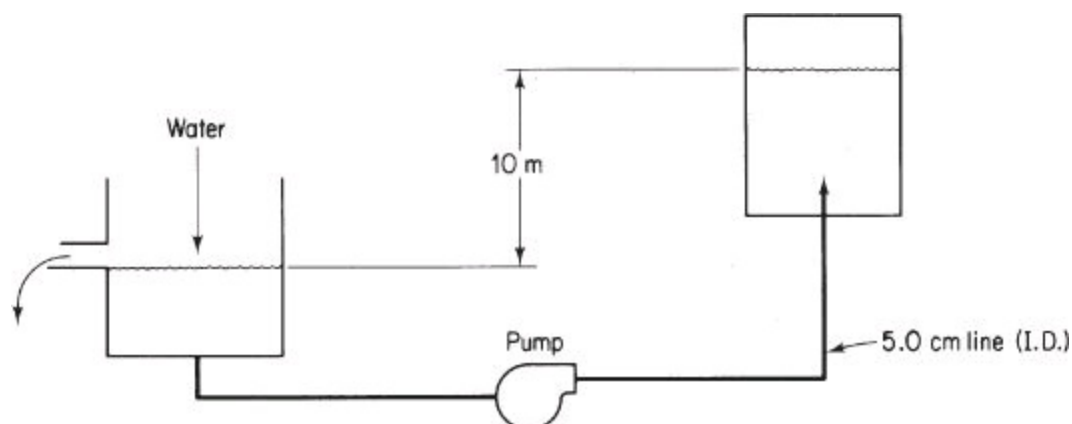

Figure P14.15
- *14.15. Water at 20°C is being pumped from a constant-head tank open to the atmosphere to an elevated tank kept at a constant pressure of 1150 kPa in an experiment as shown in Figure P14.15. If water is flowing in the 5.0 cm line at a rate of 0.40 m³/min, find